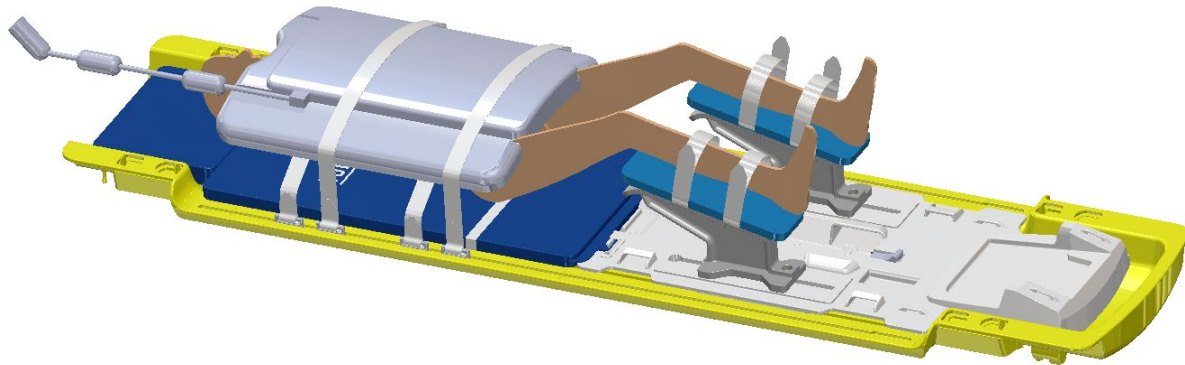

Figure 25. Placement of the anterior imaging coil.
2. Strap the anterior imaging coil over the patient's pelvis and arms. The coil should cover the prostate, without interfering with the travel of the positioning system (Figure 25, some configurations not exactly as shown).